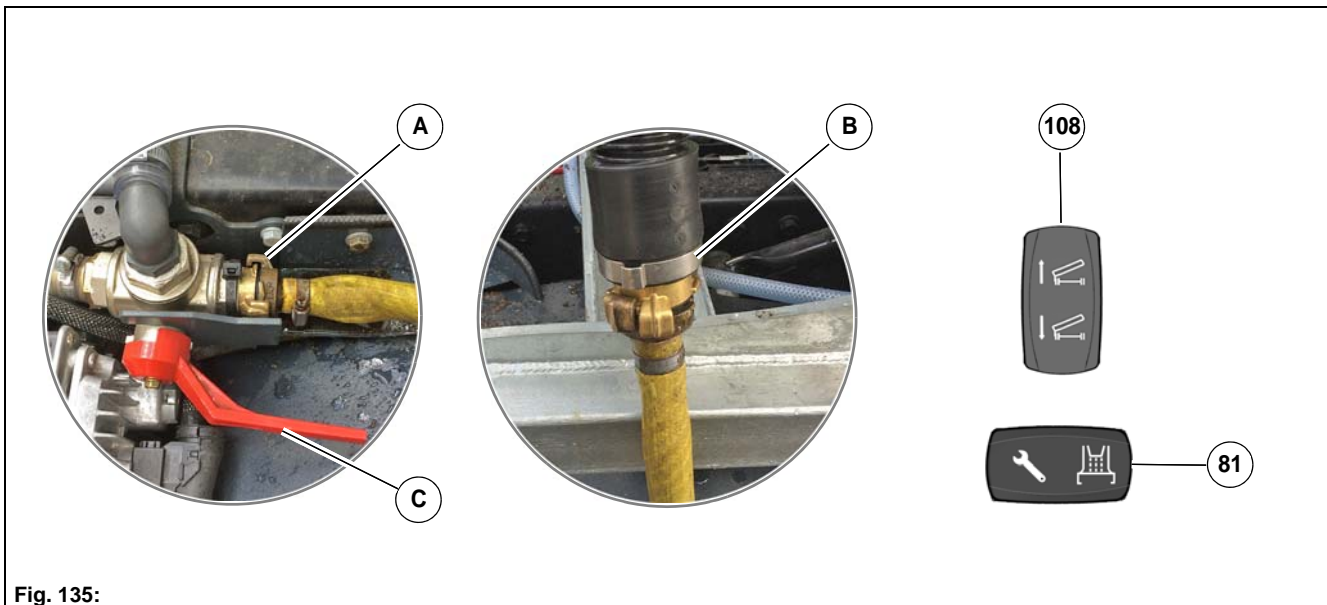

Fig. 135:
1. Open the Geka coupling **Fig. 135-A** clockwise. Open the circulating water valve with the switch **Fig. 135-81**.
2. Connect the water hose to the Geka coupling **Fig. 135-A** and flush the circulating water hose to the suction mouth and to the drain hose.
- Lever **Fig. 135-C** horizontal = flush hose to the suction mouth
- Lever **Fig. 135-C** vertical = flush hose to the drain hose
After cleaning, set the lever **Fig. 135-C** back to the horizontal position!
3. Connect the water hose to the Geka coupling **Fig. 135-B** and flush the circulating water hose to the dirt hopper.